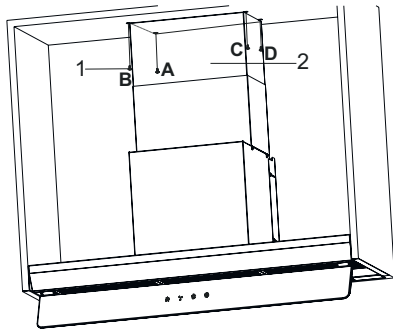

Fig. 21
- 7.** ➔ Pull the interior flue up to the top section of the cabin (Fig. 21).
Using the 4 connection screws through the A, B, C, D points to the kitchen cabin (Fig. 21).